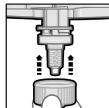
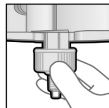

Fig. 3
Fig. 4.1
5. When the mixing tip is in the correct position (Fig. 3), push the Dynamix fixation ring over the mixing tip until it stops and turn it clockwise (1/4 turn) until it is securely locked in place (Figs. 4.1, 4.2 and 5).